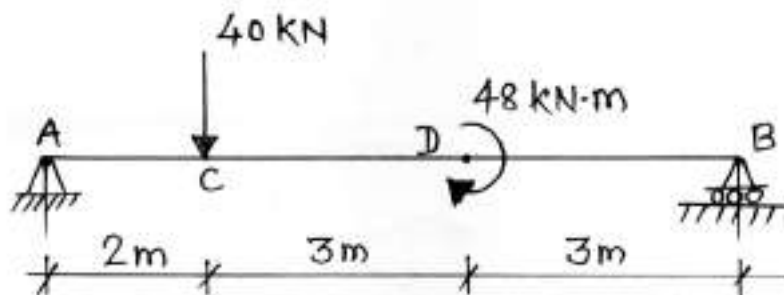

Fig. No. 5.
- e) Calculate analytically the support reactions of the beam loaded as shown in Fig. No. 5.